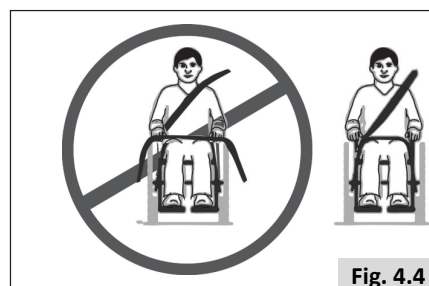

Fig. 4.4
20. Restraint belts must be adjusted as tightly as possible consistent with user comfort, and should not constrict breathing (Fig. 4.4).